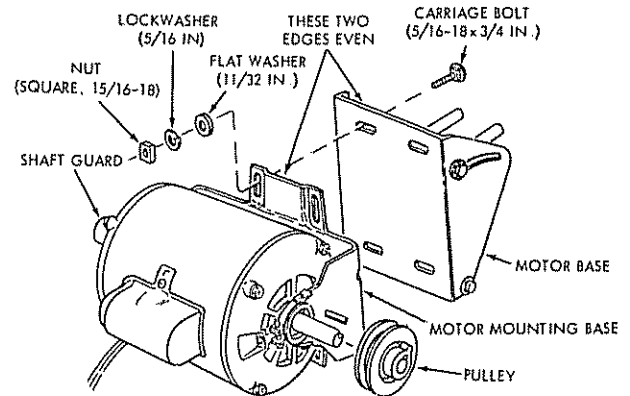

Figure 39
- Position the motor with the 5/8-inch diameter shaft at the right with mounting base in a vertical position. (See figure 39.)
- Insert four 5/16-18 x 3/4-inch carriage bolts (from loose parts package) through the motor base and motor mounting base (See figure 39.)
- b. Install the motor pulley on motor shaft with the set screw boss toward the outside. (See figure 39.) Do not tighten the set screw at this time.